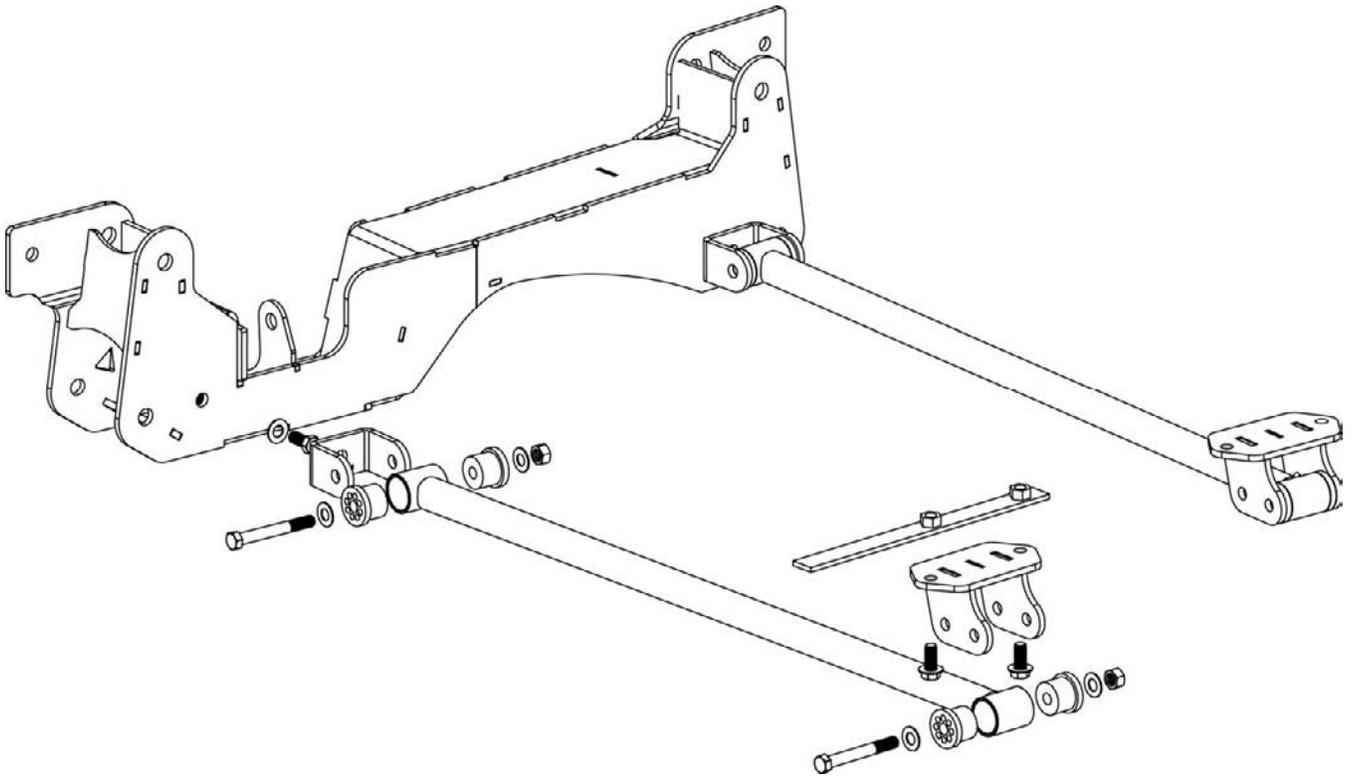

FIGURE 1
41. Locate the two FT30064BK impact tube mounts and attach to the back side of the rear crossmember using one 7/16 x 1" bolt, nut and washer per bracket. Torque to 58 ft-lbs. See Figure 1 at end of instructions.